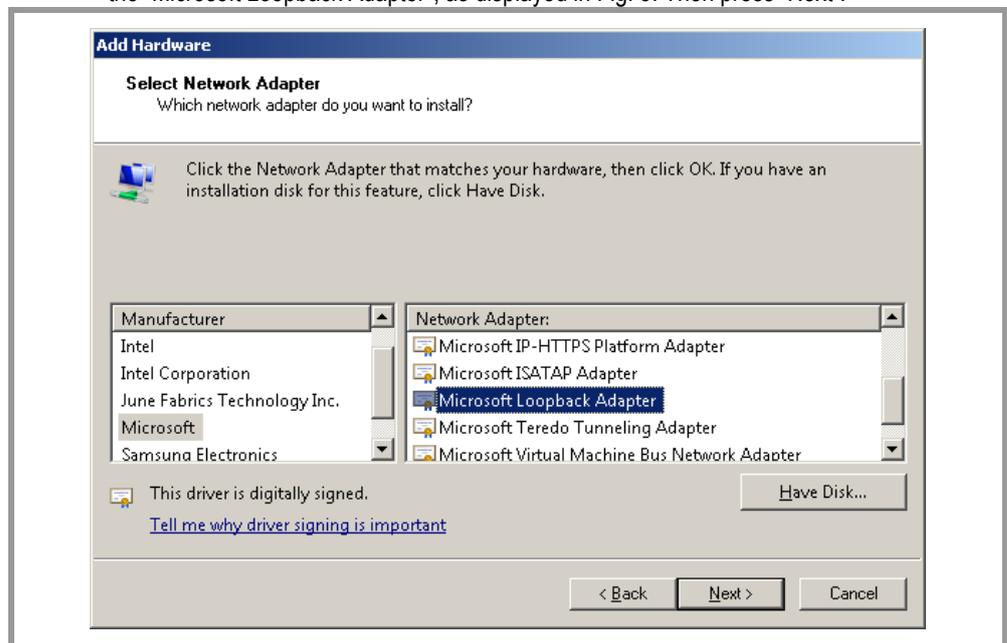

Fig. 3 Select the hardware to be installed
4. On the left side in the "Manufacturer" section select "Microsoft" and choose on the right side the "Microsoft Loopback Adapter", as displayed in Fig. 3. Then press "Next".